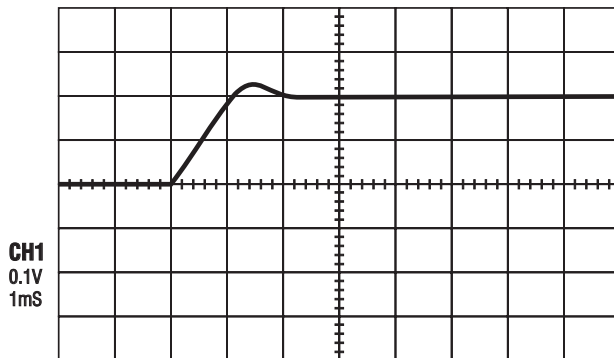

Figure 7.1.2: Optimal Output Current (Reaction Time @ 1ms) Displaying
- In the **REG PARAM / Curr regu** menu, adjust the values of **E01.00 - CurrP gain %** and **E01.01 - CurrI gain %** until the response of current is approximately **1 ms**, without overshoot (see figure 7.1.2); optimal response time of current regulator.